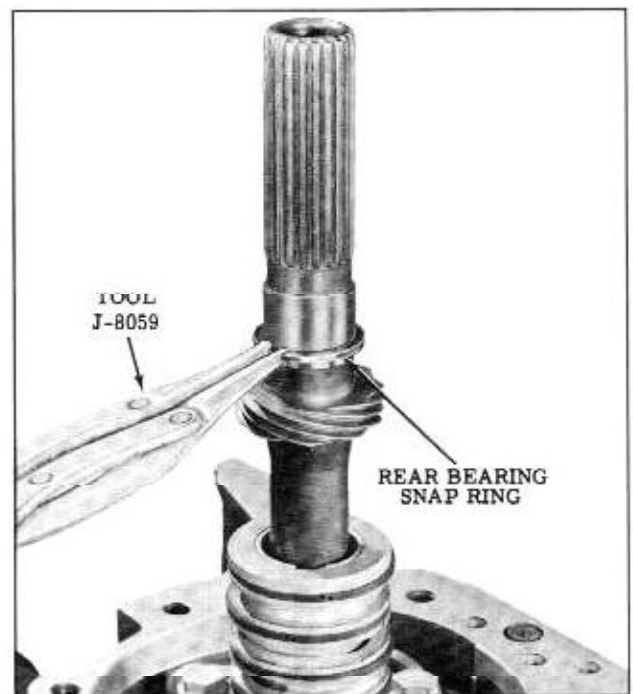

Fig. 3-35 Removing Rear Bearing Snap Ring
24. Remove the rear bearing to output shaft snap ring. (Fig. 3-35)